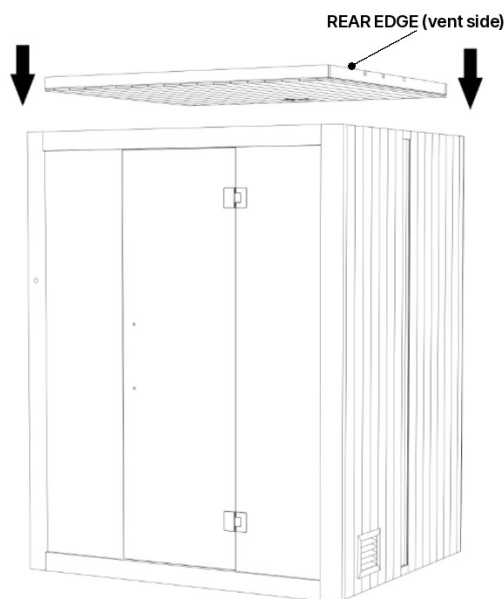

Figure 13. Ceiling Panel lowered onto the four walls, vent toward the rear.
- Working from the ladder, position the Ceiling Panel with the vent toward the rear of the sauna and lower it until it sits flush on the top rails of all four walls (Figure 13). Keep fingers clear of the top edges of the walls as the Ceiling Panel settles.
- Secure the Ceiling Panel through the ceiling trim with the (2) 3.5 × 50 mm Ceiling Panel screws, using the power drill with the Phillips bit or the Phillips screwdriver. Drive each screw until the head seats; do not over-tighten.